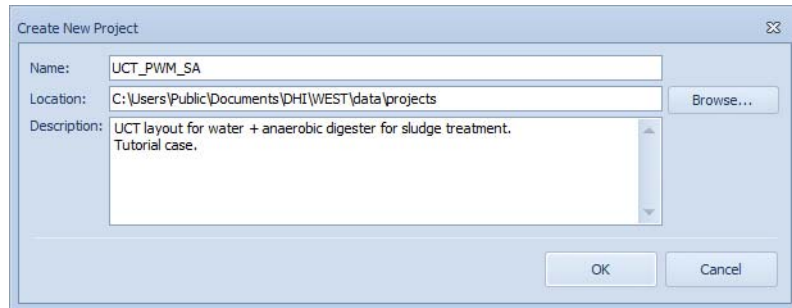

Figure 13.1 Create New Project dialogue, to create the PWM\_SA experiment from the UCT template
- This will automatically create a New Project (Figure 13.1)